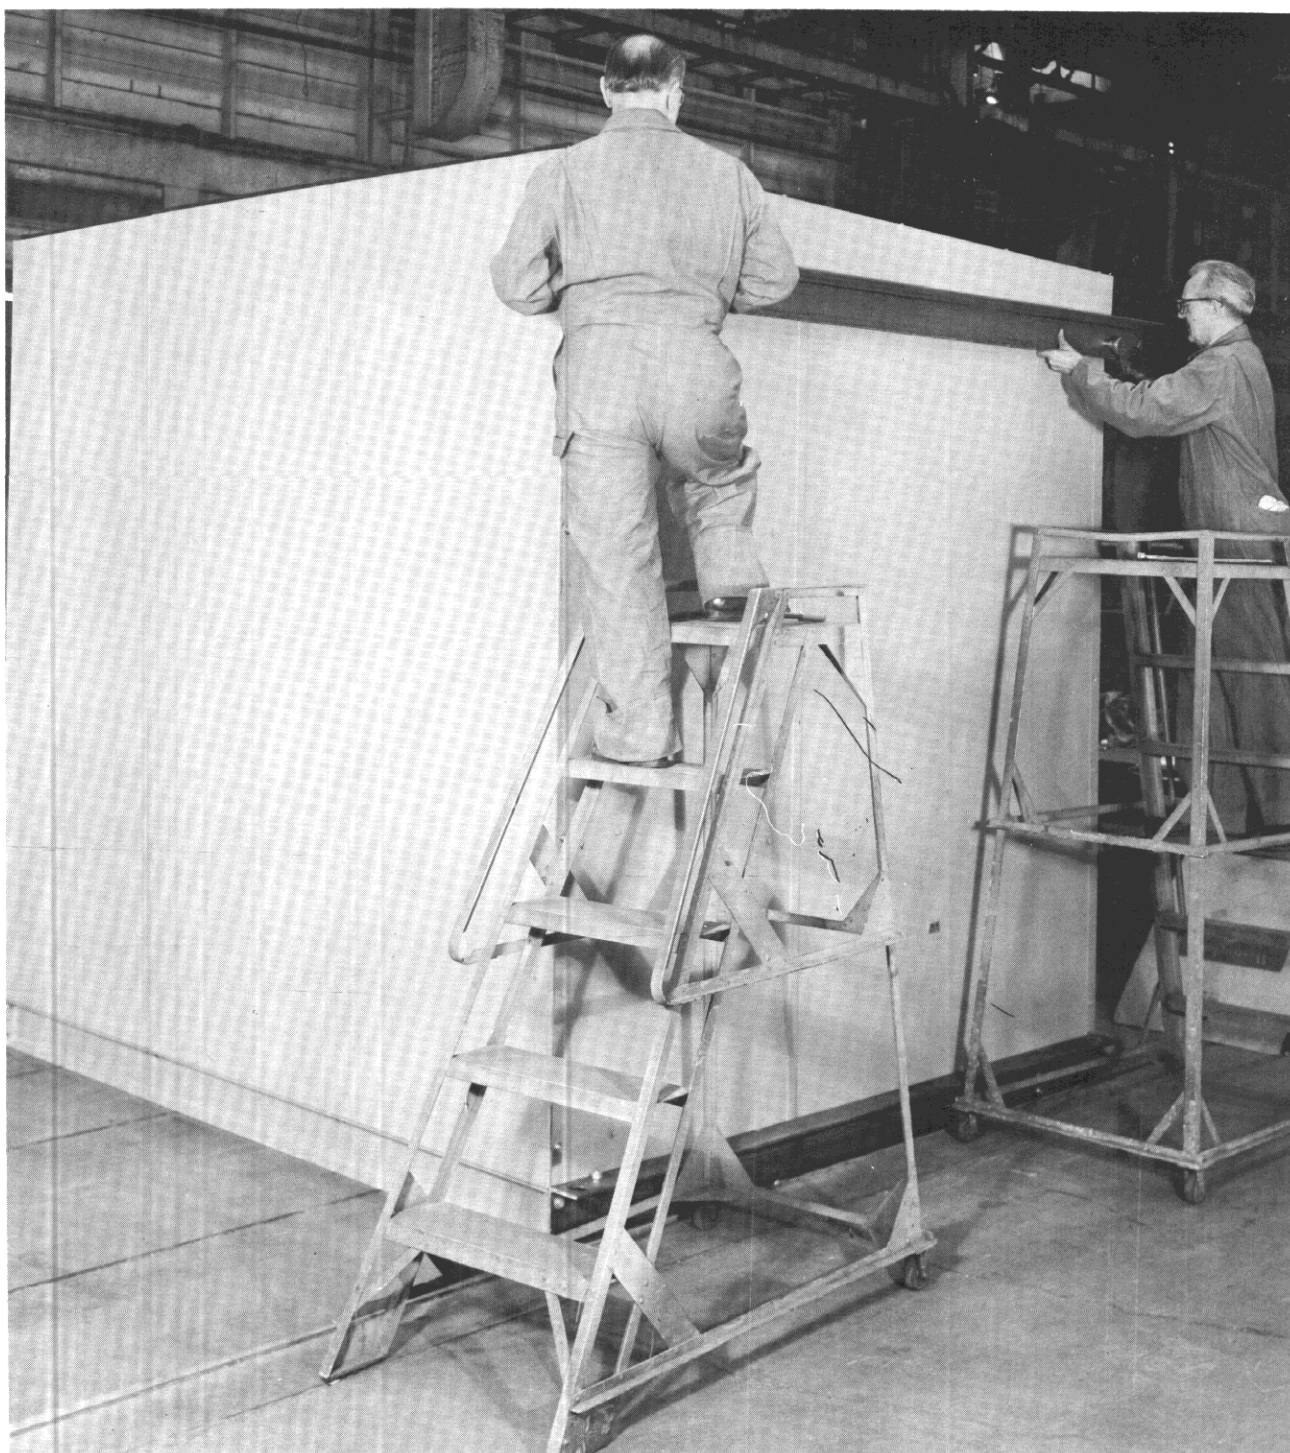

Fig. 2. Remove Shipping and Lifting Angles
4. Remove the shipping and lifting angles from the shipping group as shown in Fig. 2. If these are at the end of the switch-gear lineup, replace bolts that held the top